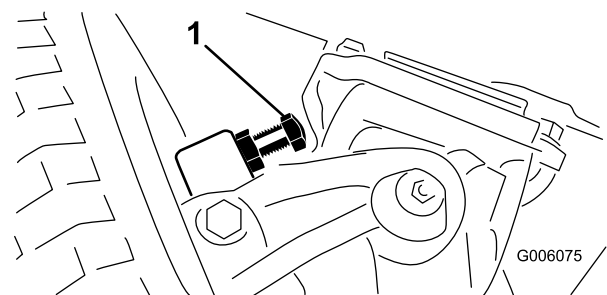

Figure 59
1. Thread the bolts in or out until the .090 inch clearance is attained (Figure 59).